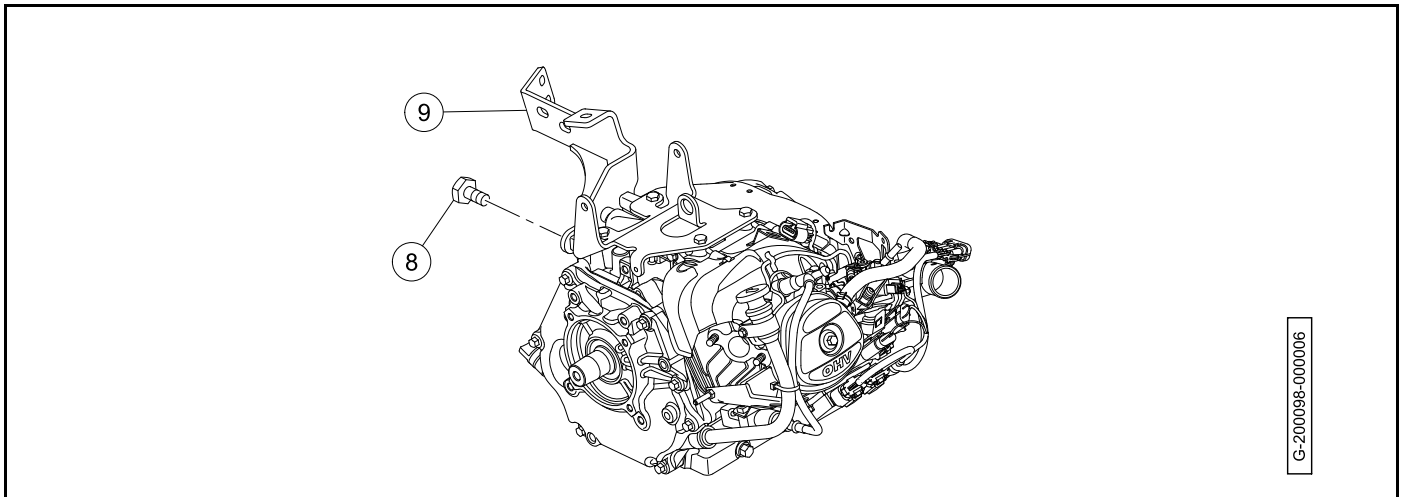

Figure 20-6 Exhaust Weldment Installation
4. Install the muffler weldment (9) with the bolts (8) (**Figure 20-6, Page 20-5**). Tighten the bolts to 18 ft·lb (24 N·m).